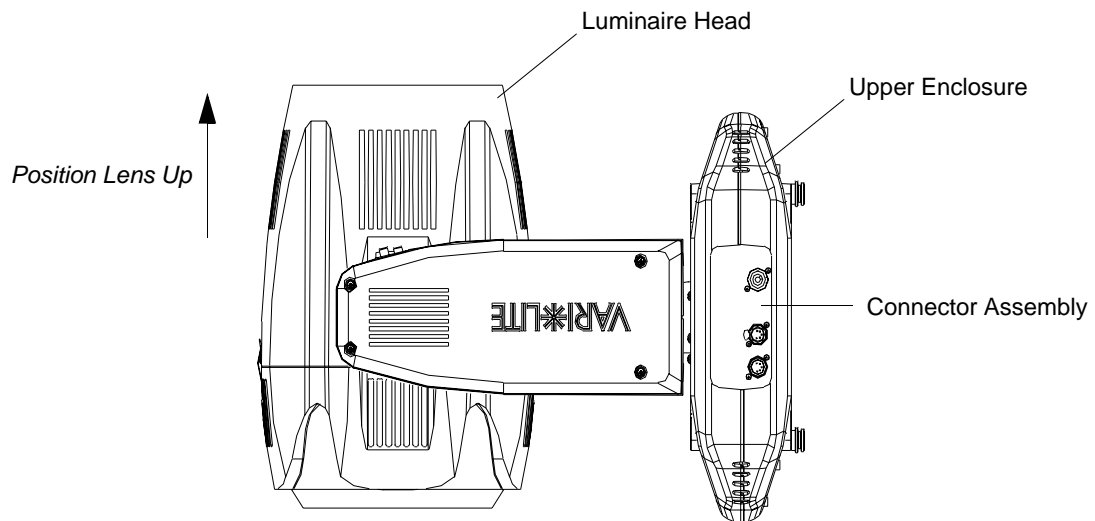

Figure 2-41: VLX Wash Luminaire
- Step 2. Carefully lay luminaire on flat, steady surface to have access to bottom cover of upper enclosure and connector assembly side is up. Be sure to rotate head as shown in Figure 2-41.